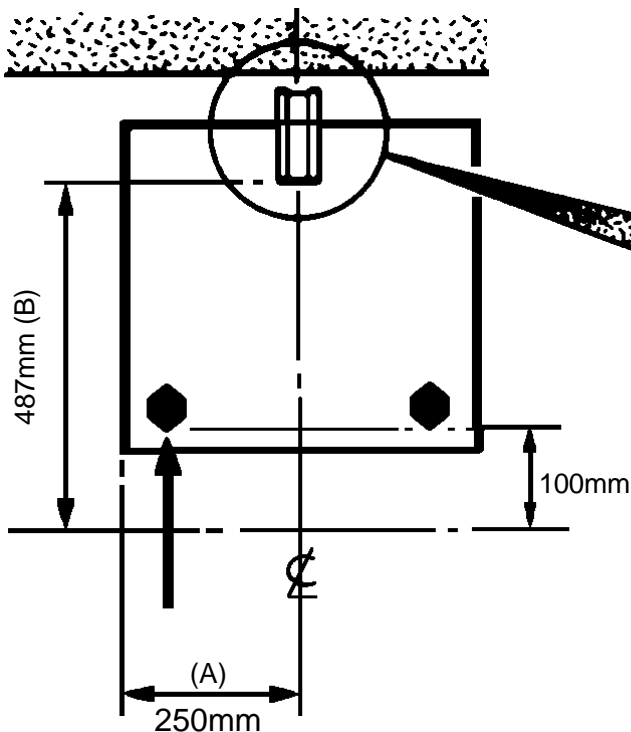
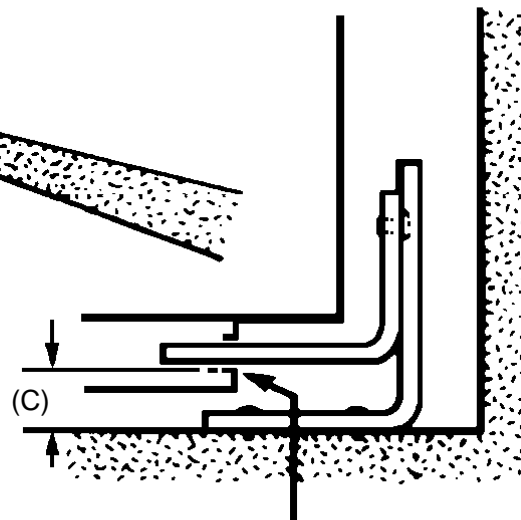

Fig.2a
Fig.2b
2. Mark off 250mm from the left hand side of the appliance as shown in dimension 'A', Fig 2a. This is the centre line of the fixing bracket.
3. Draw a line 100mm from the front edge of the levelling feet (see Fig 2a) and remove appliance from its position. Mark off dimension 'B' (see Fig 2a) back from this line on the centre line of the bracket to locate the front edge of the lower bracket. Fix lower bracket (with two fixing holes) to the floor then measure the height from floor level to engagement edge on back of appliance, dimension 'C' of Fig. 2b.
4. Assemble upper bracket to lower bracket so that underside of bracket is dimension 'C' +3mm above floor level. (see Fig. 2b).
Reposition appliance and check that top bracket engages into appliance back as shown in Fig. 2b.